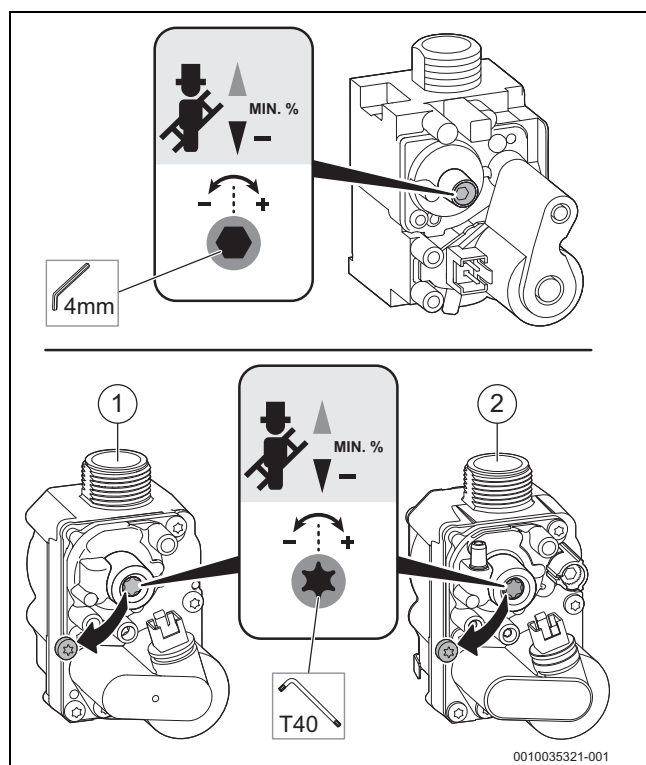

Fig. 87 Setting the CO₂ content (above: SIT valve, below Honeywell valves)
- ▶ Remove the seal from the adjusting screw of the gas valve (only gas valve is shown in the below Figure 87) and set the CO₂ content for minimum rated output.